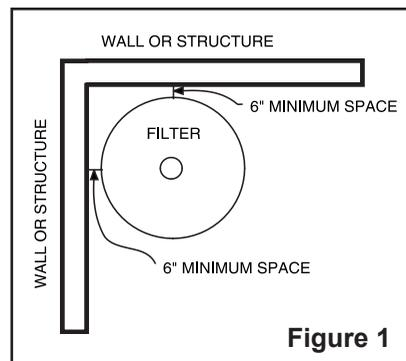

Figure 1
2. Be certain to install electrical controls (e.g., on/off switches, timers, control systems, etc.) at least five (5) feet from the filter. This permits one to stand clear of the filter during system start up.
3. Allow sufficient clearance around the filter to permit visual verification that the clamp is properly installed around the tank flanges, see Figure 1.